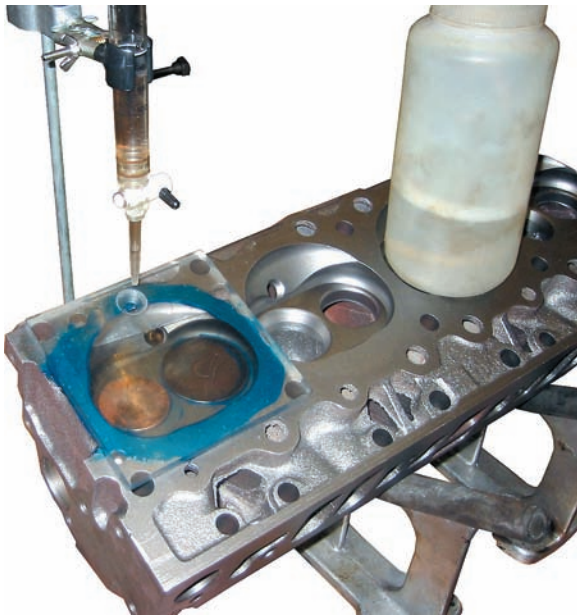

FIGURE 33-7 Setup needed to measure the combustion chamber volume in cubic centimeters (cc).
- To accurately measure the volume of the combustion chamber, a graduated burette is used with mineral spirits (or automatic transmission fluid) to measure the exact volume of the chamber in cubic centimeters (cc). ● **SEE FIGURE 33-7.**